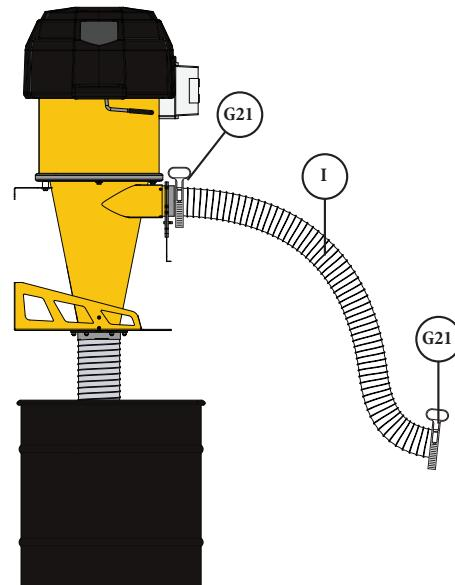

FIG. 32
32 Connect the Supercell to your tools or ductwork using the Vacuum Pressure-Rated Hose (I). Secure the hose in place using the Turn-Key Band Clamps (G21) at either end [FIG. 32].